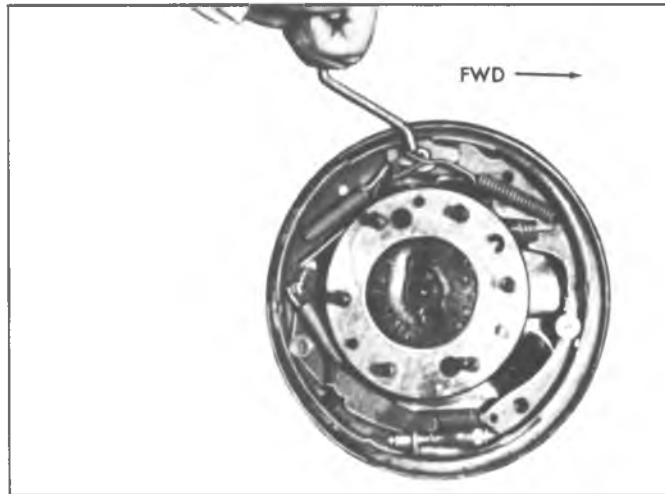

Fig. 49-Installing Pull Back Spring
13. Hook springs in shoes using Tool J-8049 by installing the primary spring from the shoe over the anchor pin and then the spring from the secondary shoe over the wire link end (fig. 49).